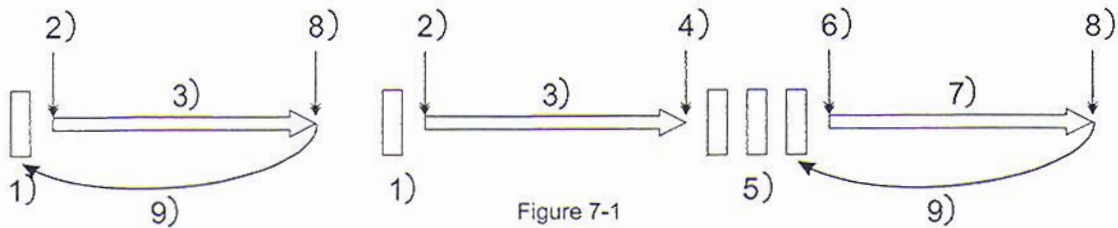

Figure 7-1
- ③ Playing.
- ④ The pause mode is set when the PLAY/PAUSE button is pressed again.
- ⑤ Pausing.
- ⑥ Playback resumes when the PLAY/PAUSE button is pressed again.
- ⑦ Playing.
- Figure 7-1 shows the relationship between the play and back cue operations.